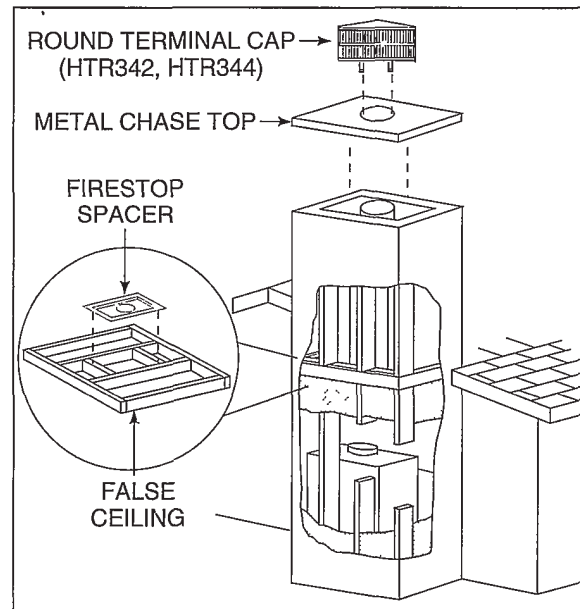

Figure 22
- 5 In cold climates, the walls of the chase should be insulated to the level of the false ceiling as shown in Figure 22. This will help prevent heat loss from the home around and through the fireplace.